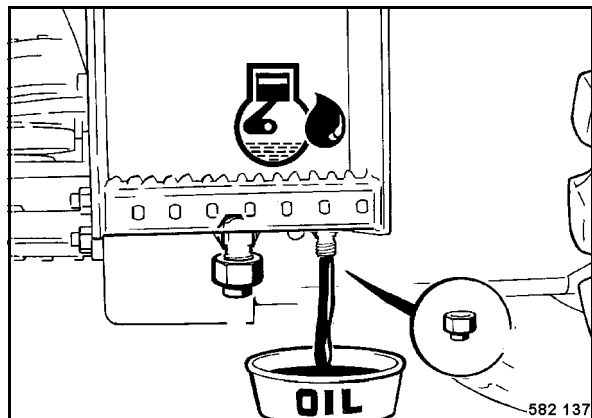

Fig. 72
- Unscrew the drain plug (Fig. 72) and catch running out oil.